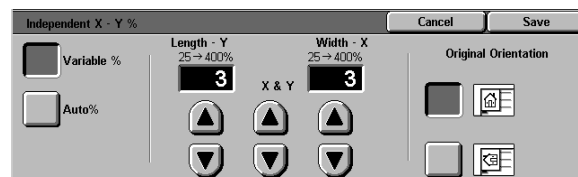

Figure 20: Variable% Reduce/Enlarge screen
- 3 Select the **Variable%** option, as in Figure 20. Perform one of the following: